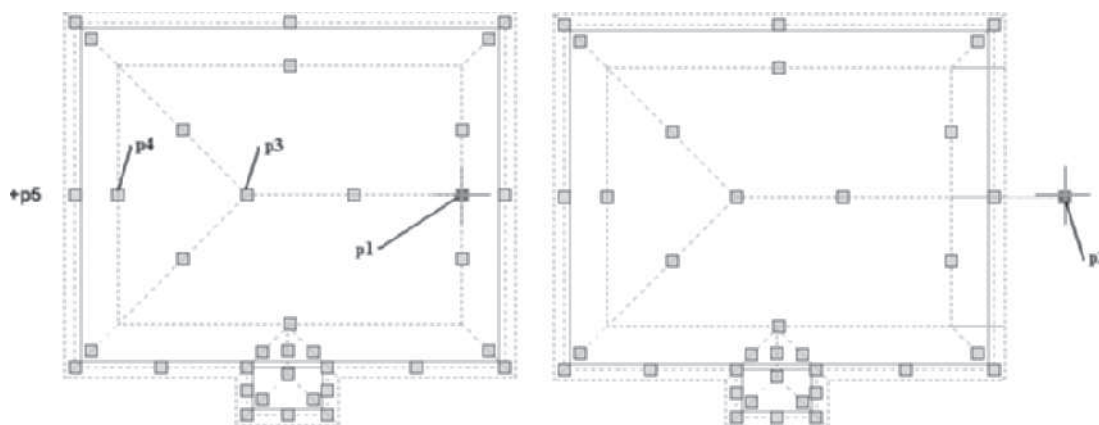

FIGURE 7.20 Lower slope grip edited
9. Create a gable for the remaining slope using grips by selecting the grip of the lower slope at **p1** as shown in Figure 7.20. Stretch the grip to a point near **p2** as shown at the right in Figure 7.20.
10. Drag grips at **p3** and **p4** as shown at the left in Figure 7.20 to **p5** by repeating steps 7 and 8 above.